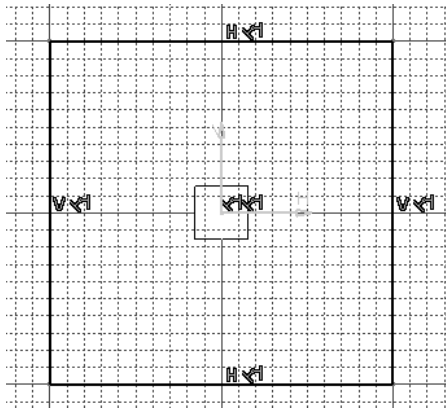

Figure 3-43 The sketch after drawing the centered rectangle
- Draw the outer loop of the sketch using the **Rectangle** tool and then edit it using the **Corner** tool, refer to Figures 3-43 through 3-45.
5. Click to specify the point at this location to draw the rectangle, as shown in Figure 3-43. Now, click anywhere in the geometry area to make sure that the rectangle is no more selected.